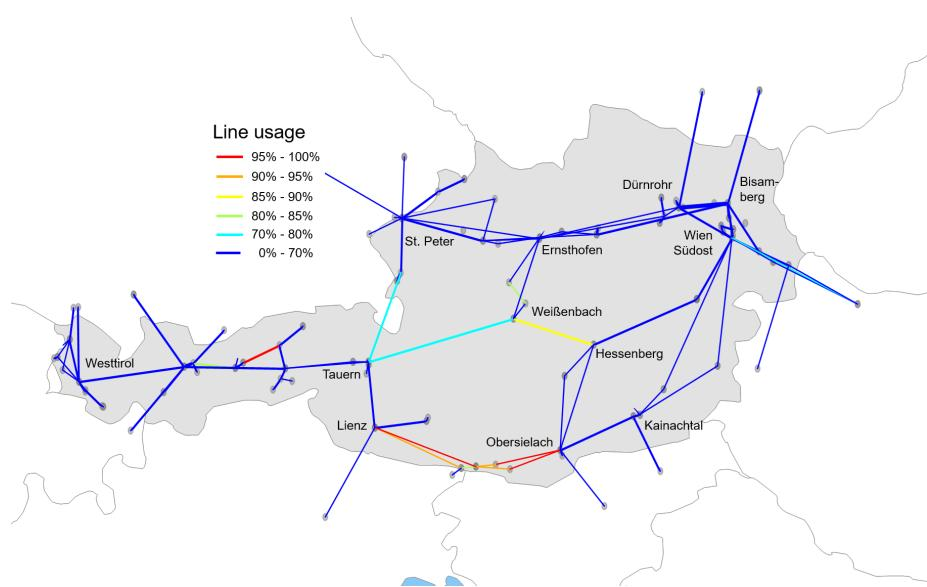

Figure 13: Example of an optimal power flow simulation with the LEGO model using grid data output from the GridTool.
12. Run your PSM. Figure 13 shows an example of running a DC-OPF with the open-source LEGO model [5]. The grid data was obtained by the GridTool and combined with official public information from Austria's TSO for electric parameters and transformers. Power plants and demand distribution were taken from a non-public data base that our institute has gathered together manually over years.